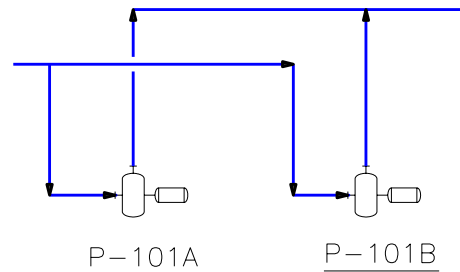

Figure 2-48 Line connecting another pump and previously created line
8. Next, connect the vertical nozzle of the other pump to the previously created line, refer to Figure 2-48. Assign the tag **8"-CS150-P-1012B** to the line.